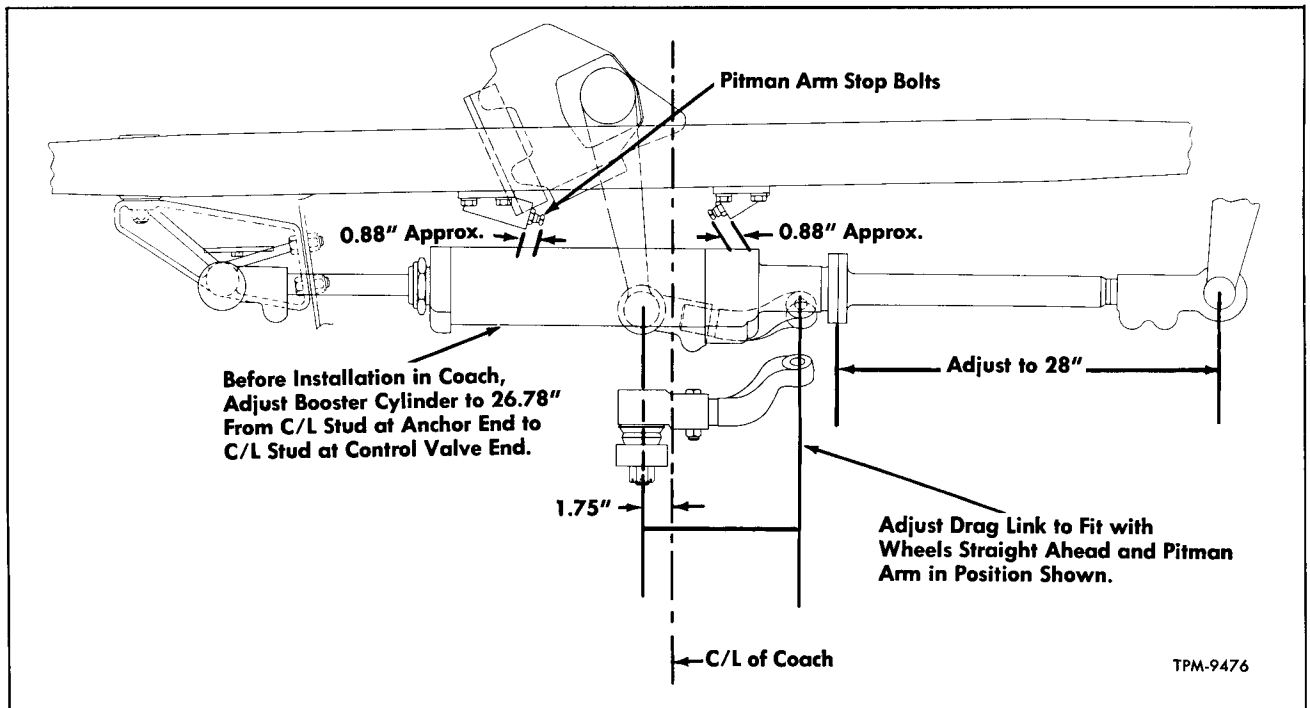
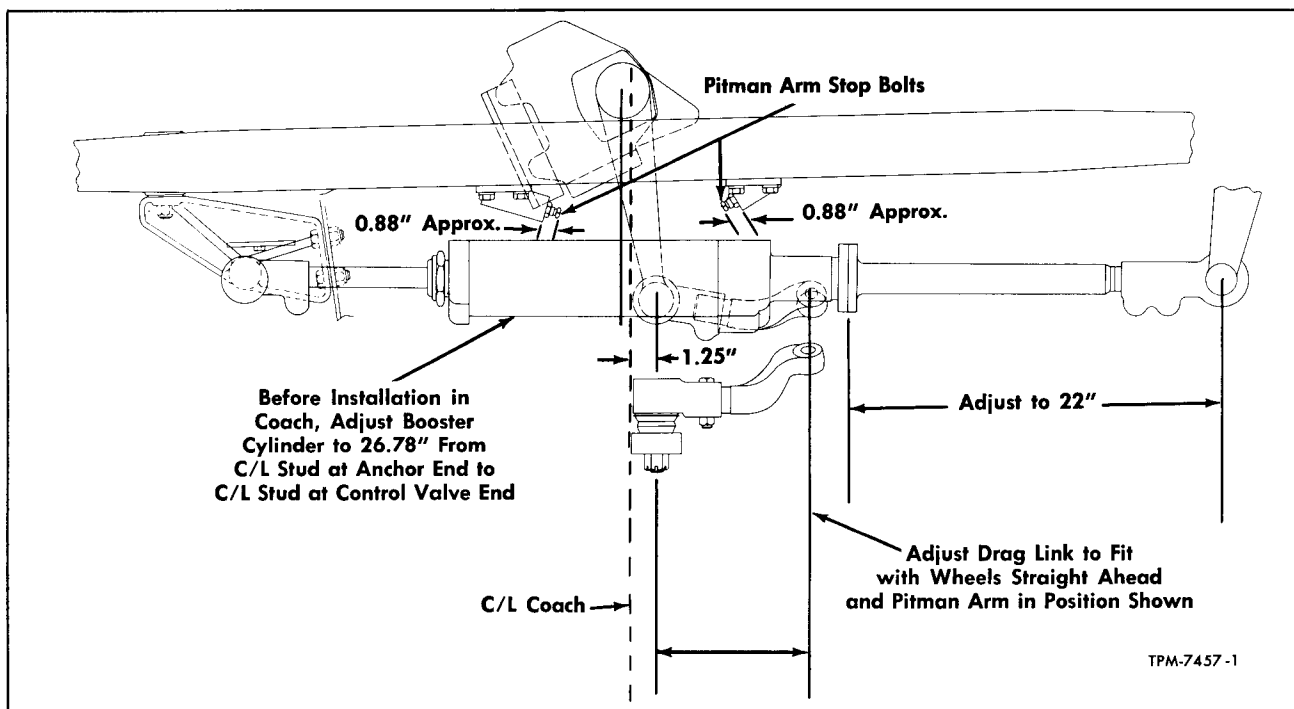

Figure 9—Power Steering Booster Cylinder Installation (TDH-4516, TDH-5301, and TDM-5301)
Figure 10—Power Steering Booster Cylinder Installation (TDH and TDM—4517, TDH and TDM-5302, SDH and SDM—4501, and SDH and SDM-5301)
4. Check length of cylinder extension and end socket assembly, measuring from center of end socket ball stud to flange of extension (figs. 9 and 10). Distance should measure 22" on TDH/TDM-4517, TDH/TDM-5302, SDH/SDM-4501, and SDH/
10. Check position of Pitman arm as described previously under "Steering Gear Replacement" in "MECHANICAL STEERING." With front wheels and steering wheel in straight-ahead position, centerline of hole at drag link end of arm should be 1.75" to left of centerline of coach, when viewed from the rear, on TDH-4516 TDH-5301, and TDM-5301 coaches (fig. 9). On TDH/TDM-4517, TDH/TDM-5302, SDH/SDM-4501, and SDH/SDM-5301 coaches, centerline of hole at drag link end of Pitman arm should be 1.25" to the right of centerline of coach (fig. 10).